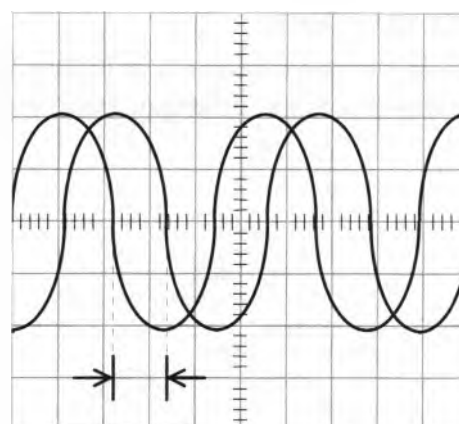

Figure 14
8. Set the *Input Coupling* control for the other channel to the *AC* position so that both waveforms are displayed again (see Figure 14).